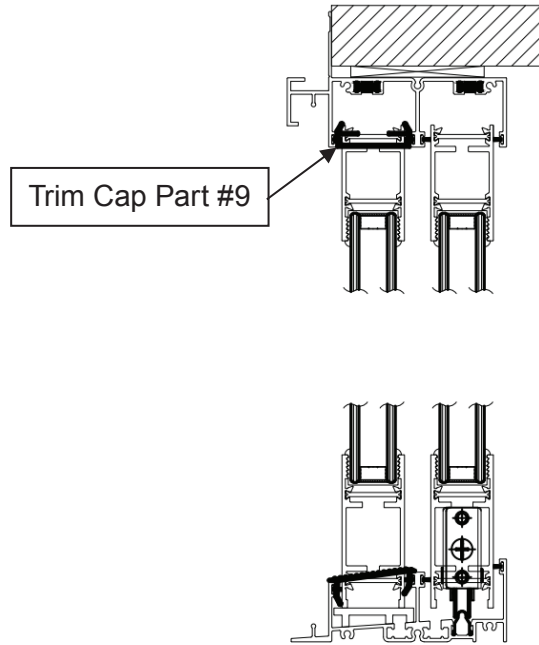

FIGURE 17
20. Install head trim cap (Part #9) into exterior head track as shown in Figure 17.